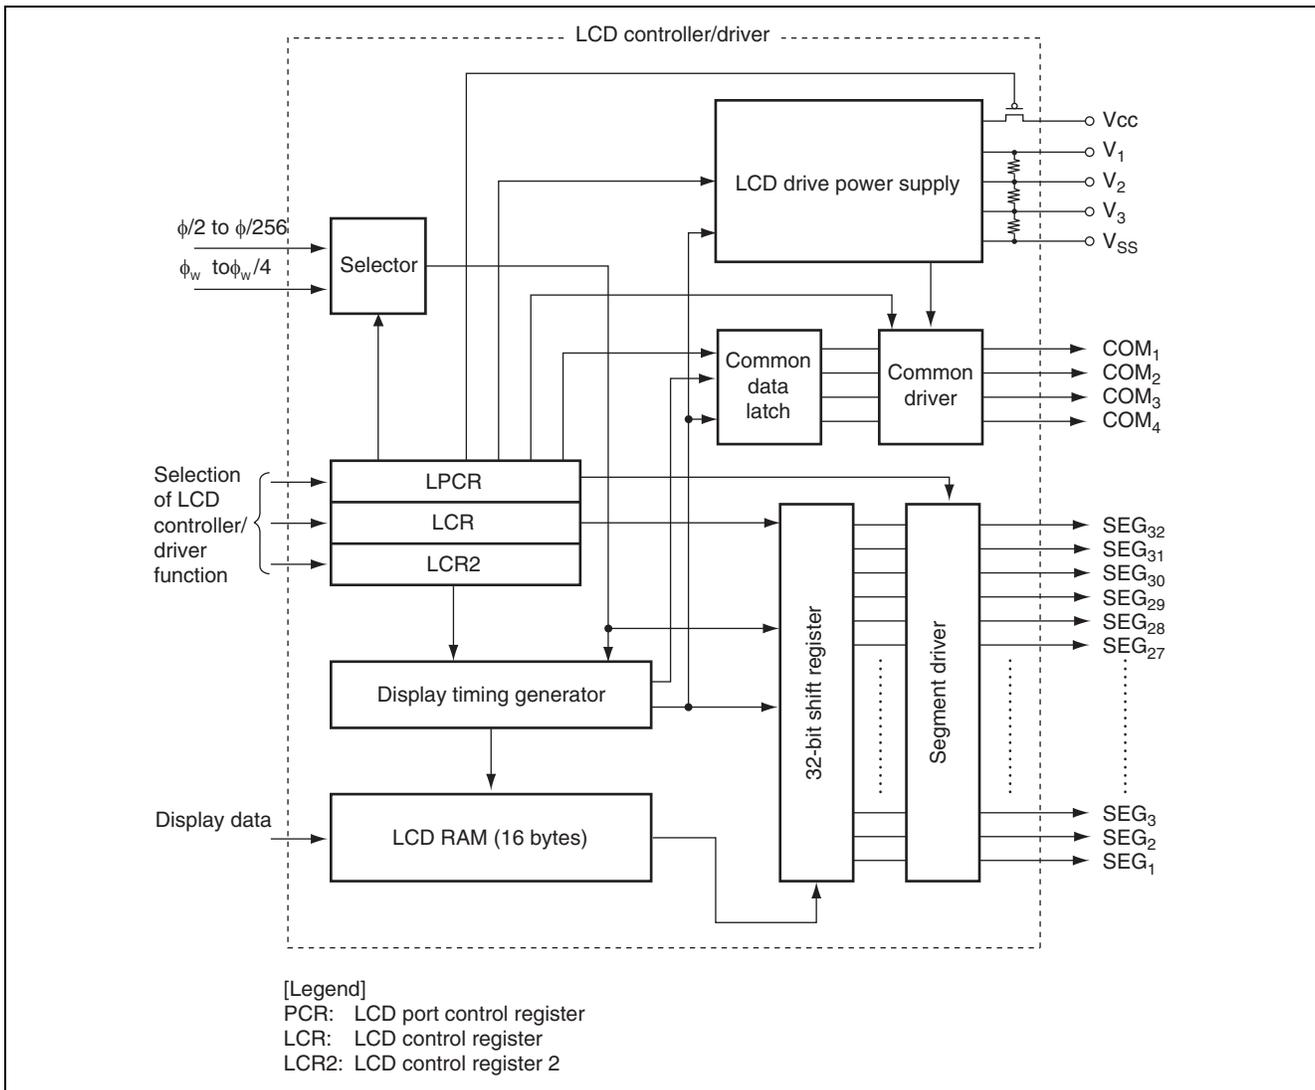

Figure 2.1 Block Diagram of LCD Controller/Driver
2. Figure 2.1 is a block diagram of the LCD controller/driver used in this sample task.